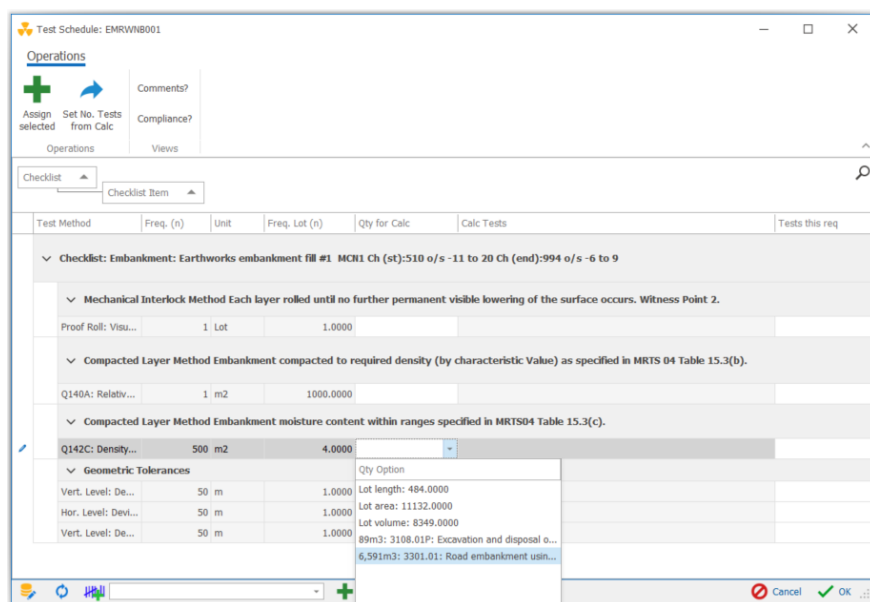

Figure 100 Selecting Test & Qty for Calc
7. The Test Schedule dialog will appear. Select the test from the list (Q142C) and from the *Qty for Calc* dropdown select 6591m2 (Figure 100) and press OK.